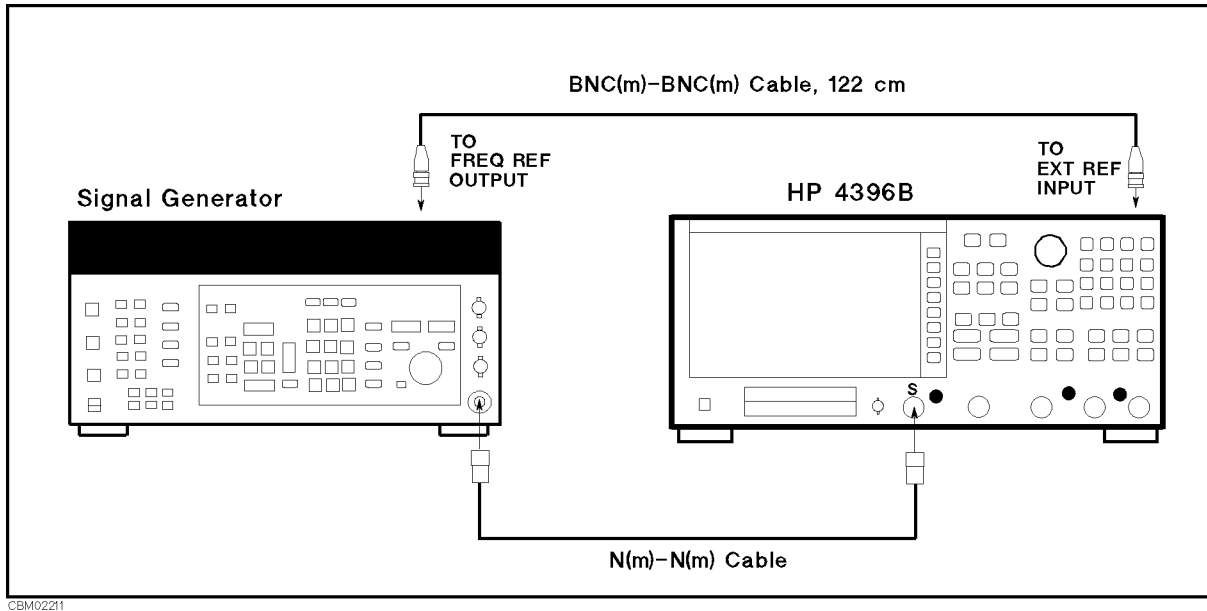

Figure 2-22. RBW Accuracy and Selectivity Test Setup
1. Connect the test equipment as shown in Figure 2-22.
Note	Connect the signal generator's 10 MHz frequency reference output to the 4396B EXT REF Input on the rear panel as shown in Figure 2-22. With this configuration, both the signal generator and the 4396B are phase locked to the same reference frequency to obtain a stable measurement.